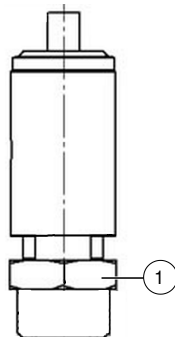
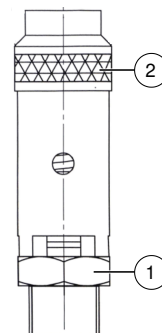

Fig. 27: 1/4" connection safety valve
Fig. 28: 1/2" connection safety valve
2. Open the safety valve for a few seconds by turning the knurled nut (Fig. 28 on page 44) counterclockwise. During this process, the closure of the safety valve opens, whereby the air must escape.
1. Attach an open end spanner to the spanner flat (Fig. 27 on page 44 and Fig. 28 on page 44) and unscrew the safety valve by turning counter-clockwise.